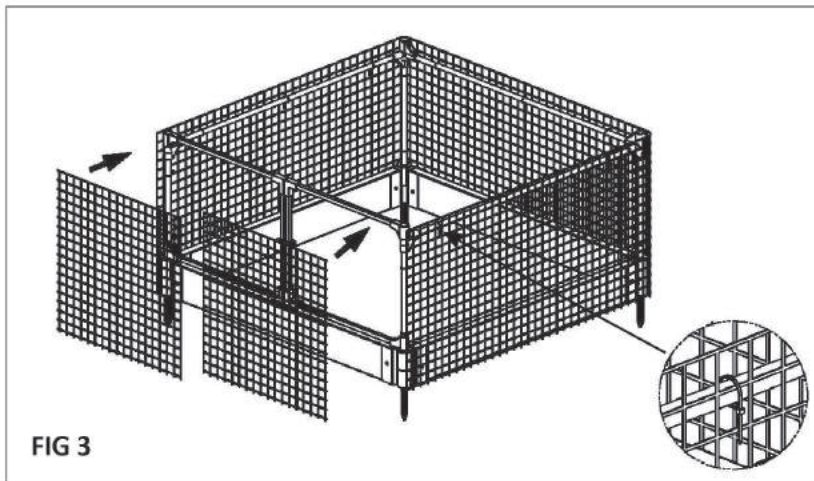

FIG 3
STEP 5 - Apply black netting to framework (FIG 3)